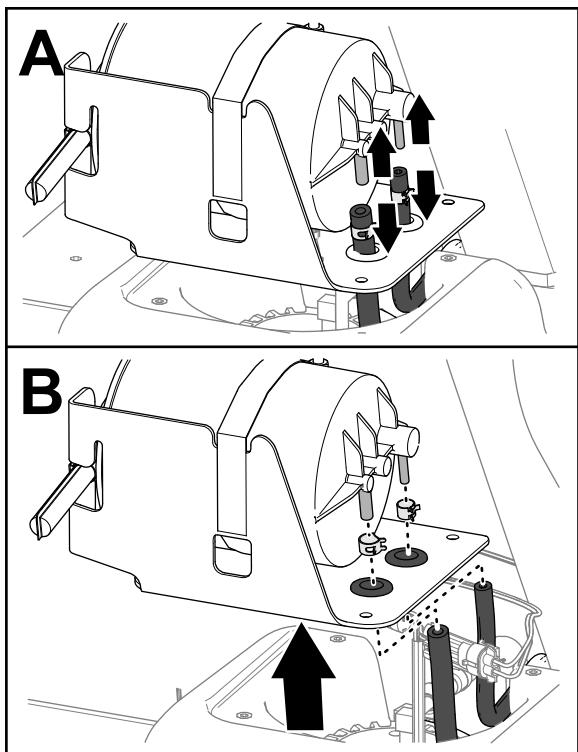

Figure 80
4. Separate the hoses from the fittings (Figure 80).
5. Remove the hose clamps from the hoses (Figure 80).
6. Remove the carbon canister from the fuel tank (Figure 80).